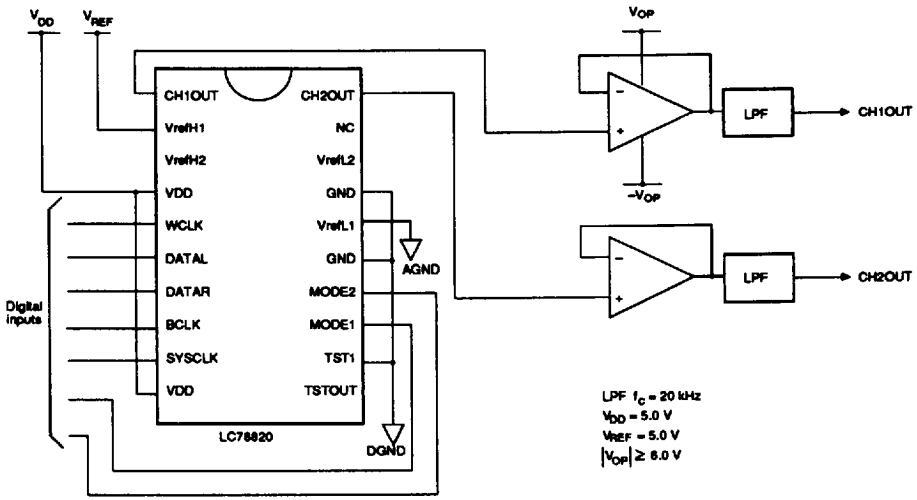

Figure 6. DC-coupled D/A converter
1. Measurements are taken with a sampling frequency of $F_s = 384$ kHz using the typical application circuit shown in figure 6.